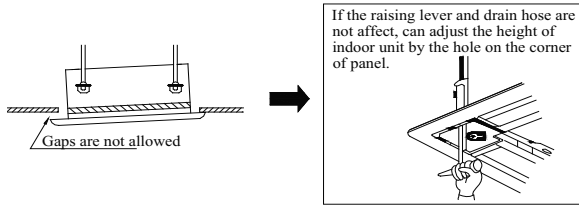

Fig. 70 - Improper Screwing
- (2.) If a gap still exists between the ceiling and decoration panel after tightening the screws, readjust the height of the indoor unit (see Fig. 70).